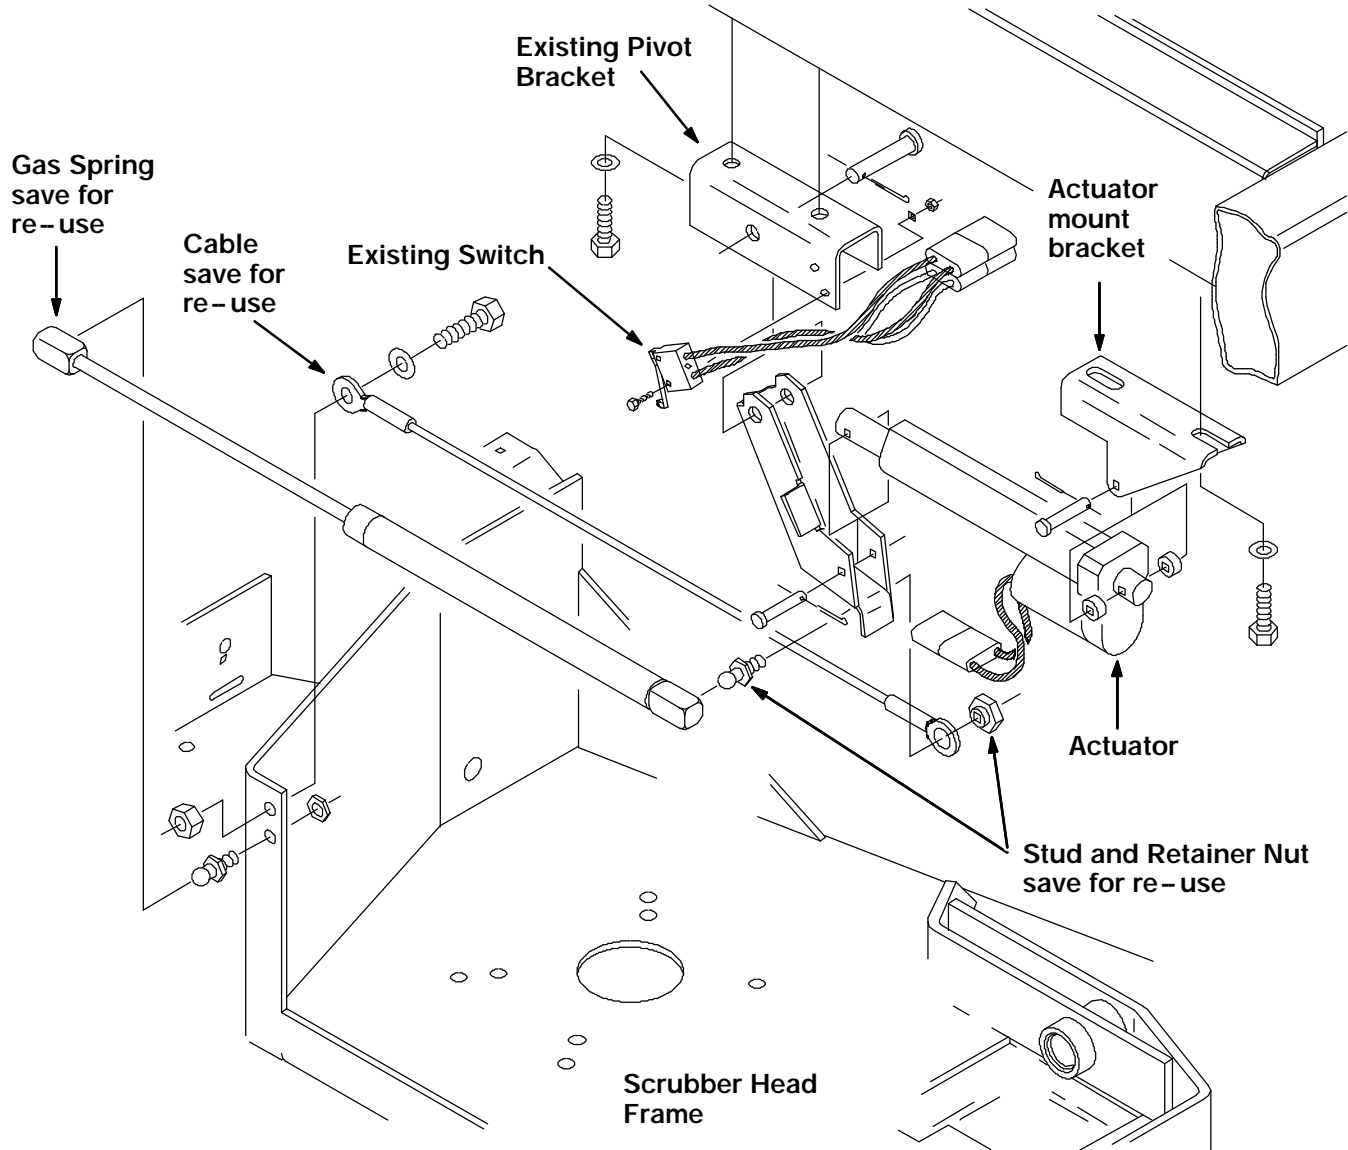

FIG. 2 - Existing Bracket Assembly
4. Remove gas spring from bracket by placing a small flat blade screwdriver in slot and turning to pop spring loose. (Refer to Fig. 2 and 4)
5. Remove gas spring from right side of scrubber head frame. (Refer to Fig. 2 and 4)
(Refer to Fig. 2 and 4)
(Refer to Fig. 2, 3, and 4)
8. Remove gas spring bracket from pivot bracket. (Refer to Fig. 2, 3, and 4)
9. Remove the actuator mounting bracket, pivot bracket, and switch assembly from machine with a 13 mm wrench. Retain hardware for installation of new parts. (Refer to Fig. 2)